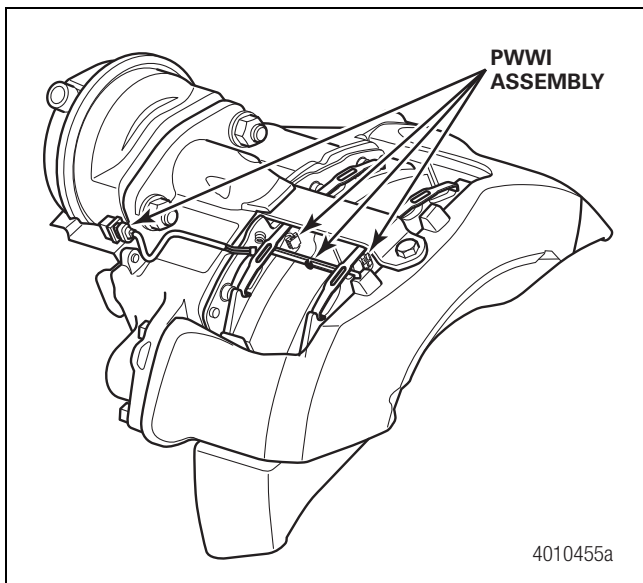

Figure 3.3
- A pad wear warning indicator (PWWI) which is fitted to the pad. Depending on the vehicle configuration, a warning signal will be given to indicate that a pad change is required. Figure 3.3.